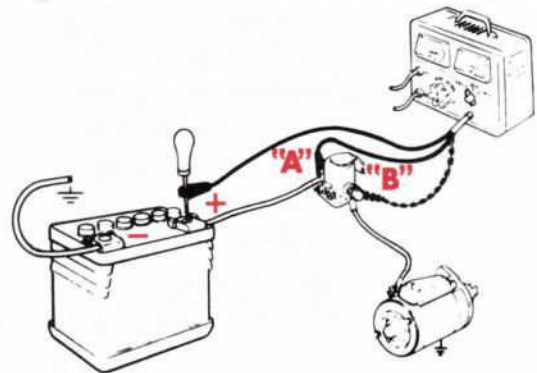

Figure 10—Circuit Resistance Test—Battery Side of Relay to Battery & Start Side of Relay to Battery
**Battery Side of Relay to Battery**—Connect the positive lead of a voltmeter to the positive battery post. Connect the negative voltmeter lead to the battery terminal of the relay (Test "A", Fig. 10). Crank the engine. A voltmeter reading in excess of 0.1 volts indicates excessive resistance.
**Starter Side of Relay to Battery**—Connect the positive lead of a voltmeter to the positive battery post. Connect the voltmeter negative lead to the starter terminal of the relay (Test "B", Fig. 10). Crank the engine. A voltmeter reading in excess of 0.3 volts indicates excessive resistance.